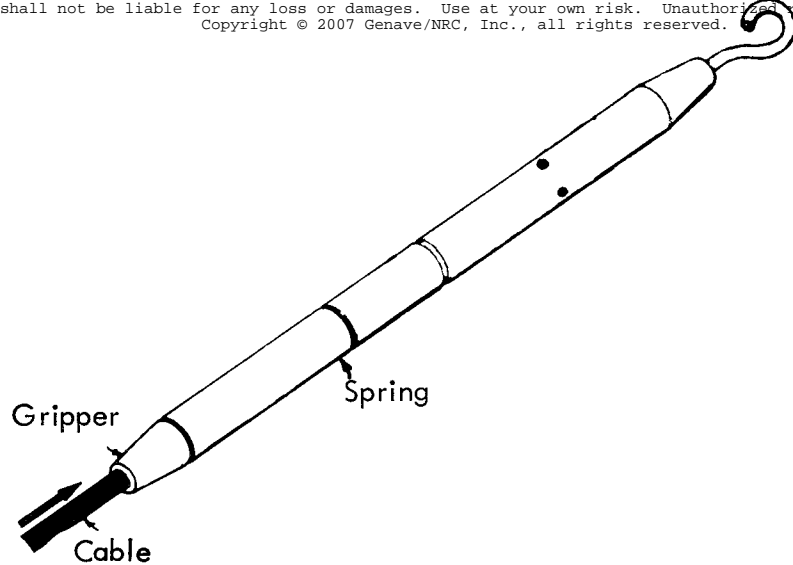

Figure 4
2. Insert stripped end into gripper on spring insulator assembly as shown in figure 4. Pull on antenna wire to insure that it is securely locked in gripper.